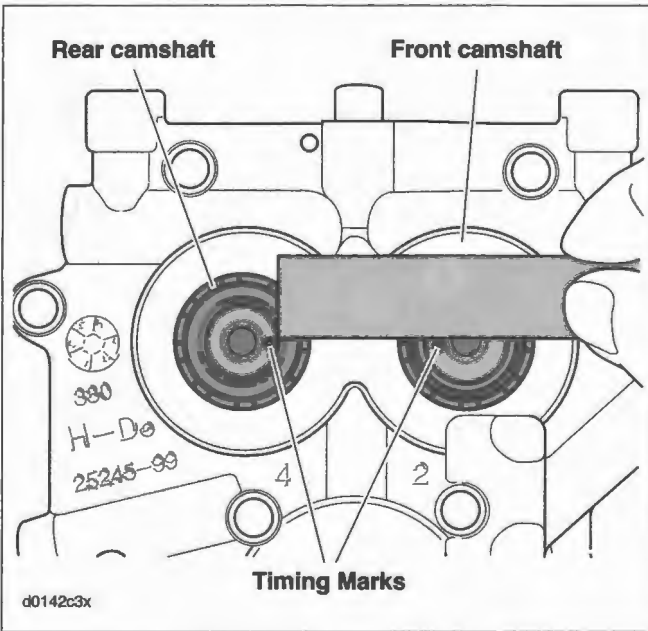

Figure 3-77. Checking Camshaft Alignment
3. See Figure 3-77. Using a straightedge, verify that the timing marks on the ends of the front and rear camshafts are in alignment. If necessary, rotate camshafts in order to make this observation.